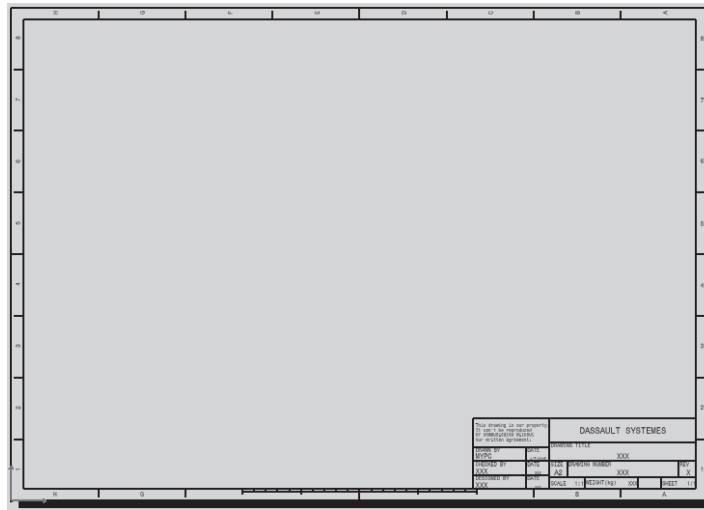

Figure 13-30 The drawing sheet, after creating the title block and frame
- Create a standard title block and frame in the background editing mode, refer to Figure 13-30.
3. Choose the **OK** button from the **Insert Frame and Title Block** dialog box. The drawing sheet, after creating the title block and frame, is shown in Figure 13-30.